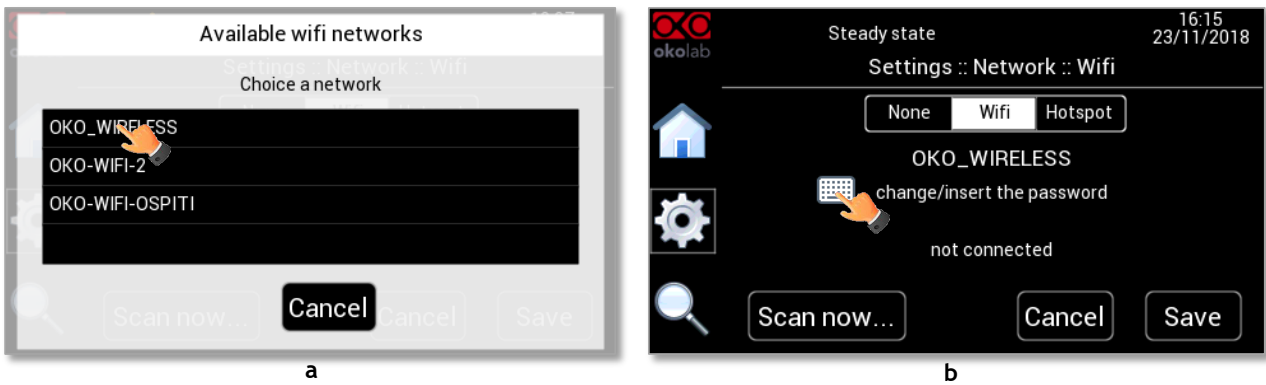

Figure 92. Wifi connection (a - b).
- Press the *Scan now* button to choose among the available Wi-Fi networks, the dialog in Figure 92, a opens and you can press on the Wi-Fi network at which the Tri-Gas-Mixer has to be connected.
- Enter the Wi-Fi password using the related keyboard, as shown in Figure 92, b and then follow the steps shown in in Figure 93, a and b.